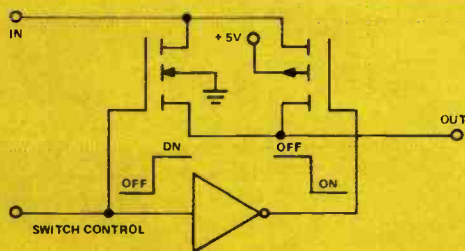

Fig. 28. COS/MOS-Transmission Gate
The COS/MOS functional equivalent to the TTL tri-state buffer is the *Transmission Gate* shown in Fig. 28. In this circuit, a conventional COS/MOS inverter (as previously described) is used to control a complementary pair of transistors which are connected in parallel between an input terminal and an output terminal. If the switch control line is LOW, both transistors are cut off and the output terminal is in a "floating" condition. When the switch control line goes HIGH, both transistors conduct and the output terminal assumes the same potential as the input terminal. Two interesting properties of this circuit are: (1) it is bi-directional, in the sense that the input and output